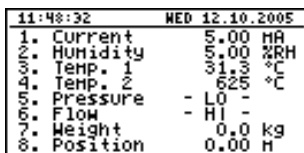

Fig. 6.10. "Channels list" mode (values)
- **"Channels list"** mode (Fig. 6.10, 6.11) enables the measurement results for all active measurement channels to be viewed in numeric or graphic (bar) form.